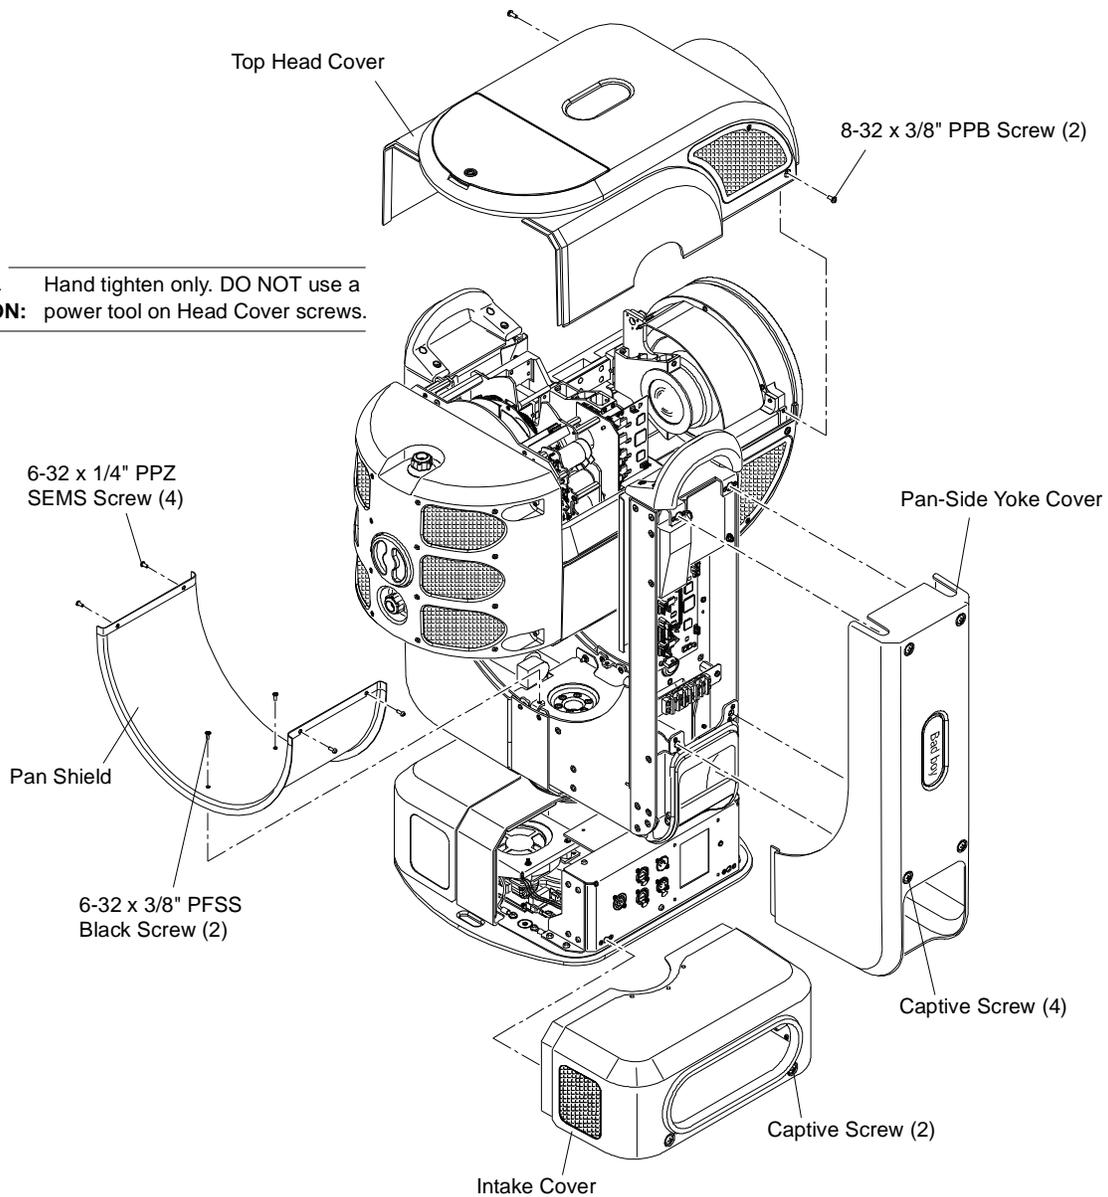

Figure 3: Removing Covers
- Step 2. Remove Top Head Cover by removing two 8-32 x 3/8" PPB screws (**Figure 3**).
Step 11. Replace Yoke Cover, Intake Cover, and Pan Shield. (Refer back to **Figure 3**.) When installing Intake Cover, route Ethernet Cable so that it passes through notch (created in previous step).
g. Using manual #2 Philips screwdriver, re-install screw on left side of Head Cover (**Figure 3**).